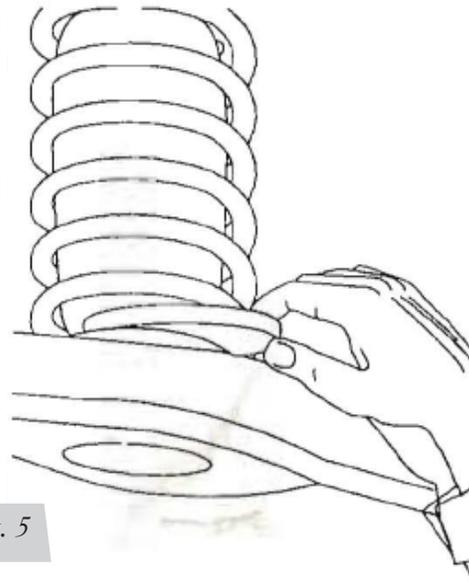

fig. 5
7. Push cylinder to the top of the coil and insert the black spacer on top of lower spring seat as shown in Figure 5.